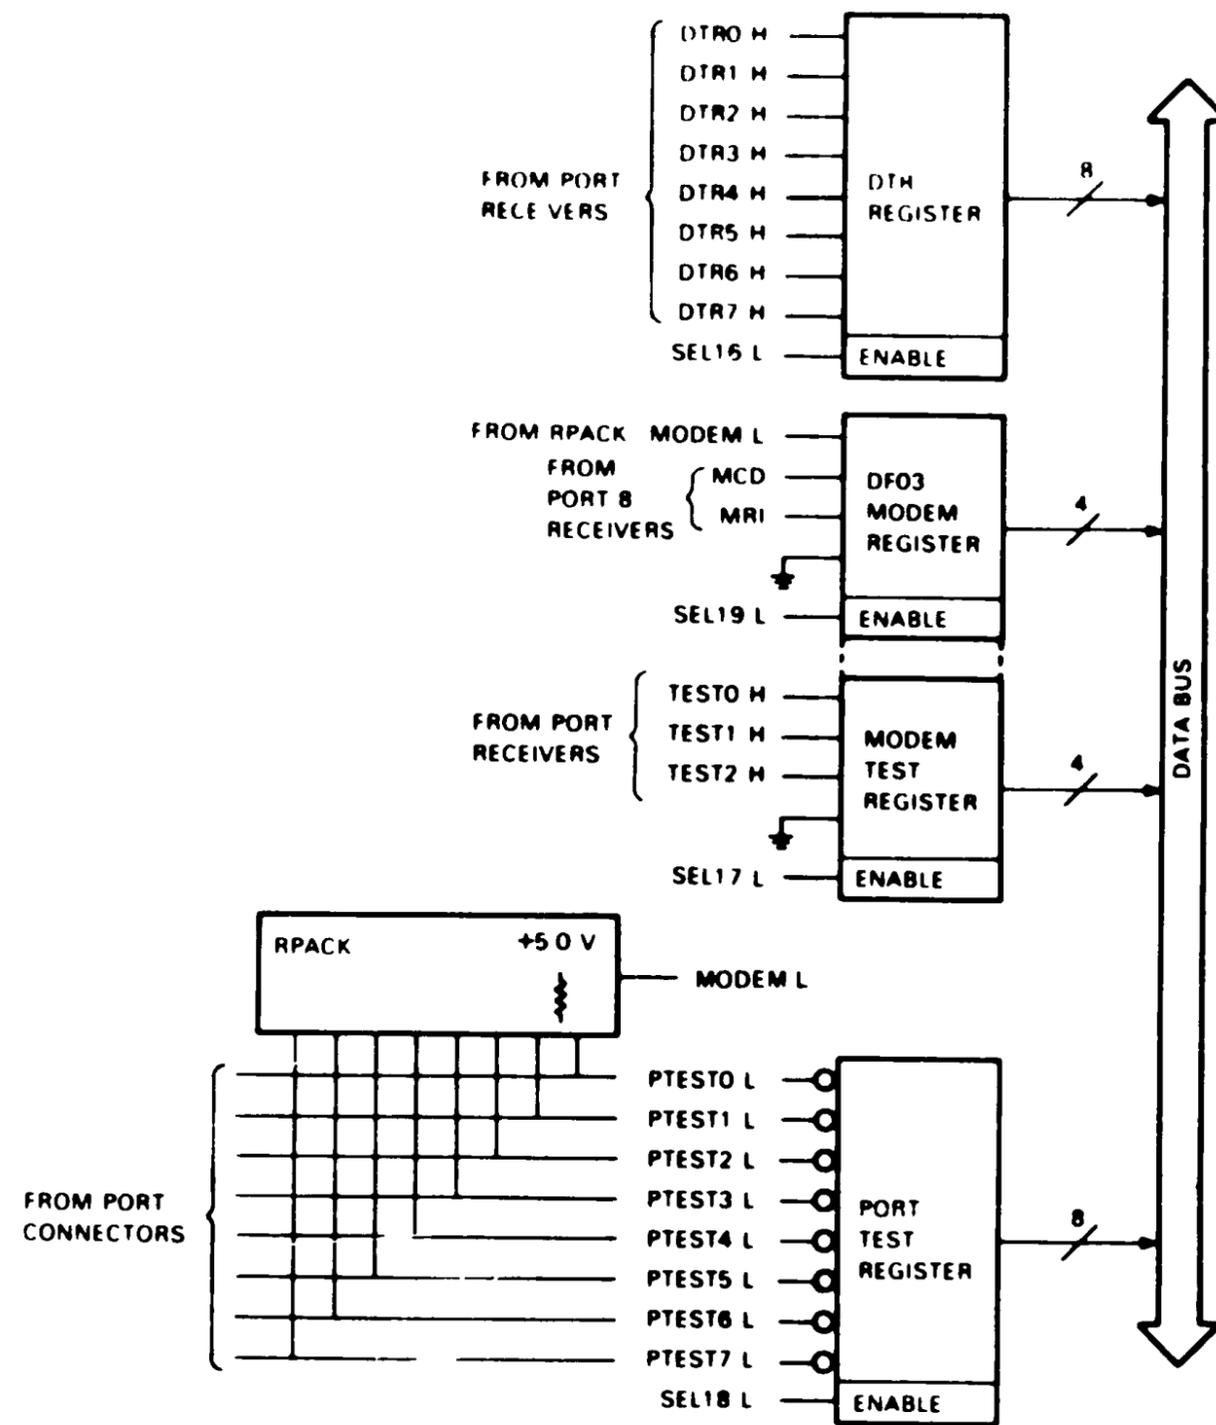

Figure 2-14 Read Control Registers with Data Bus
2.3.8.1 Data Terminal Ready (DTR) Control Register (Figure 2-14) This register is a dual quad buffer. When the address decoders enable this register (SEL16), the data from the input lines transfers to the data bus. Each communication port has a DTR line connected to the DTR control register. The CPU reads this DTR line to determine if a terminal is ready for data transfer.